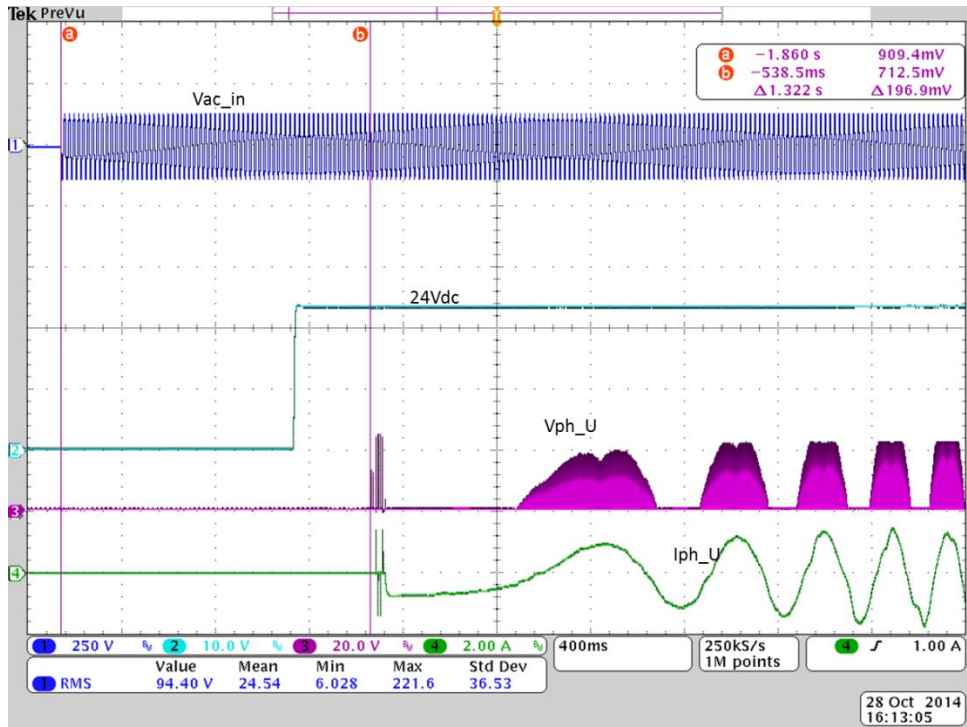

Figure7: Motor Start-up time at 90Vac
3. **Start-up time:** Figure 7 and 8 below shows the motor start-up time at different line condition. The maximum start-up time occurs at low line condition i.e. at 90Vac and it is in range of 1.3 seconds, whereas at 230Vac it is in range of 700msec.